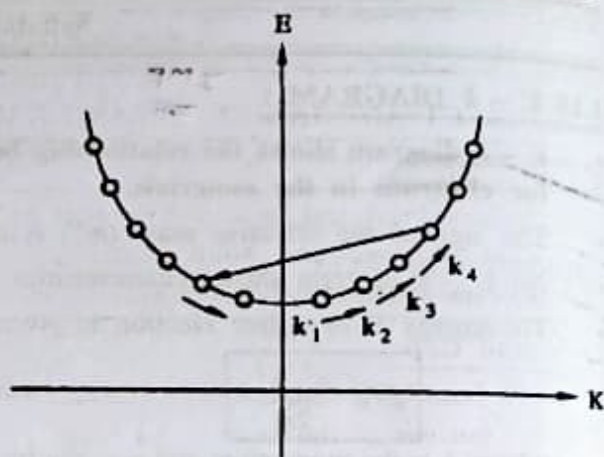

FIG. 1.24 : $E - k$ DIAGRAM OF CONDUCTION BAND
- One can determine the energy gained by the electron by considering the $E - k$ diagram of the conduction band as shown in Fig. 1.24.
- The accelerated electron coincides with lattice vibration and hence, random scattering of electrons takes place. The scattered electron takes into another k value as shown in Fig. 1.24: